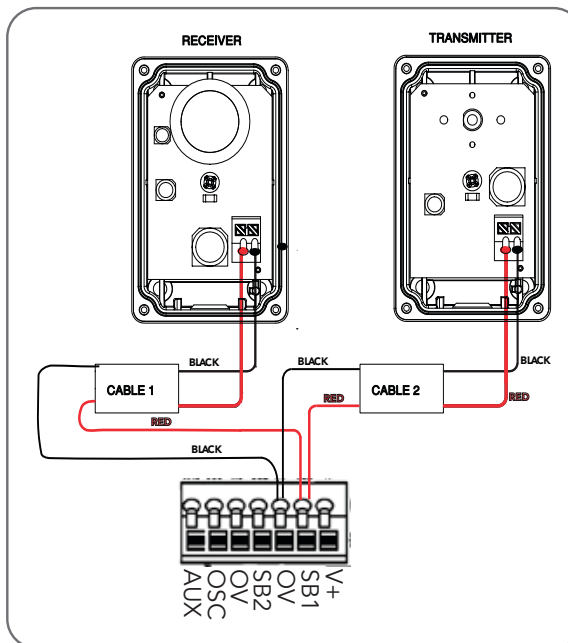

Fig.6.6.2
- Wire the PE Beams as per Wiring Diagram (Fig. 6.6.2).
**WARNING:** Connect the Safety Beam as per diagram in Fig 6.6.2. Tampering with the Safety Beam could result in serious personal injury and/or property damage and will void the warranty.